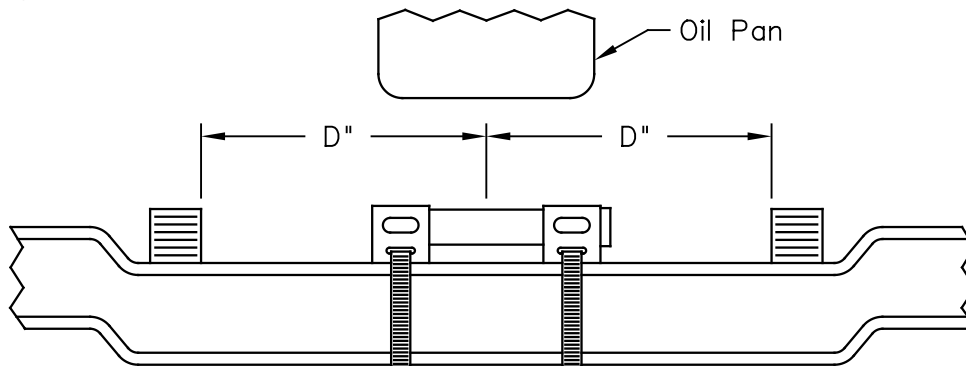

Figure 2.3-A: Front Axle Location
1. Measure and mark the center of the axle, both side-to-side and front to back, (see Figure 2.3-A).